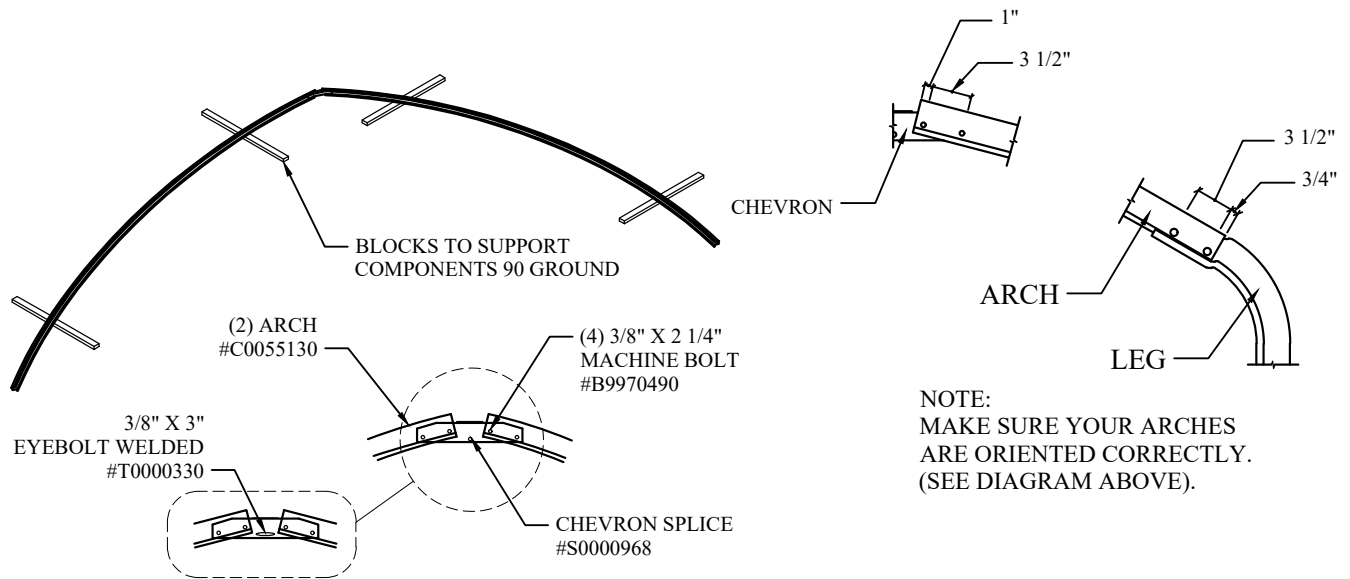

FIGURE 12 - ARCH ASSEMBLY
1. ASSEMBLE THE ARCHES ON THE GROUND USING BLOCKS UNDER EACH ARCH. (SEE FIG. 12 ABOVE).
2. BOLT EACH ARCH TOGETHER WITH A CHEVRON SPLICE AND (4) 3/8" X 2 1/4" MACHINE BOLTS.
2. ATTACH A CABLE FROM EACH TURNBUCKLE TO THE EYEBOLT PREVIOUSLY INSTALLED ON THE THIRD ARCH USING 2 CABLE CLAMPS, PER CONNECTION'S PAGE 9, FIGURE 12, NOTE 3.